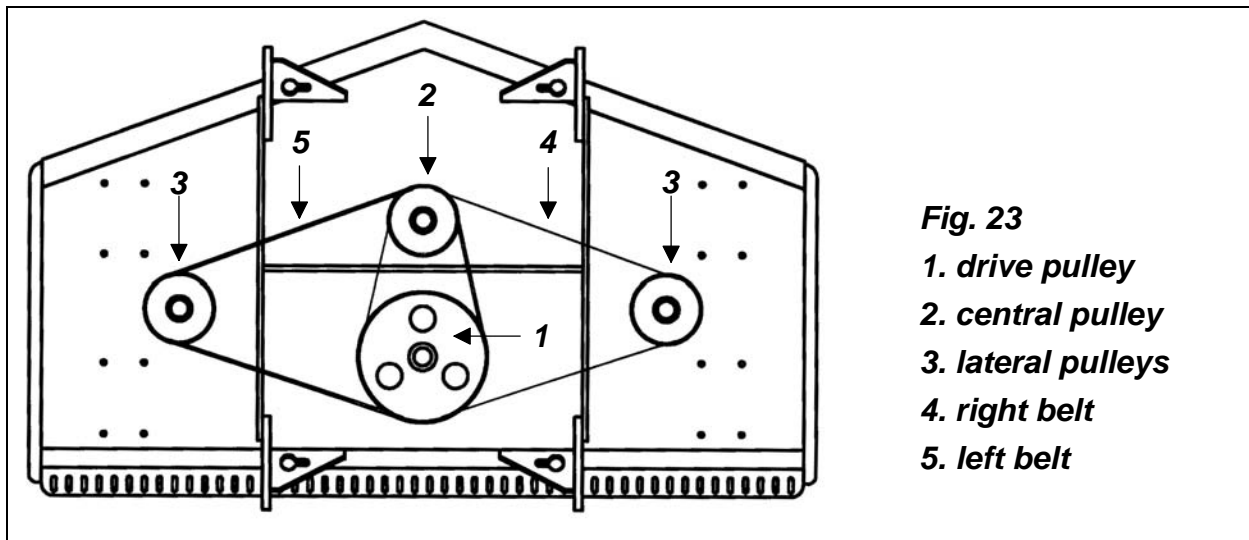

Fig. 23
8. Replace new belts (**see fig. 23**). Loop the first belt over the left spindle and around the lower groove of the center spindle pulley and the lower groove of the gearbox drive pulley. The second belt connects the upper grooves of the center spindle pulley and the gearbox drive pulley with the right spindle pulley.